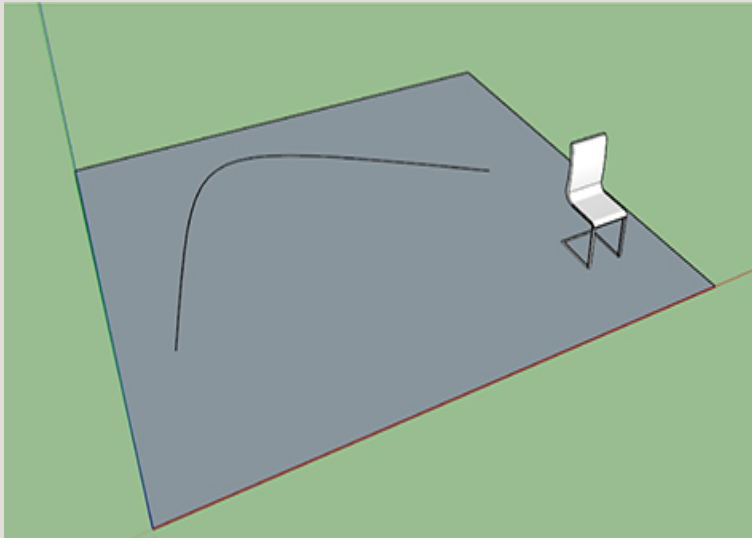

Figure 4-17 Make a rectangle, group it, and draw a Bezier curve.
1. Make a rectangle and group it. Then draw a Bezier curve on top of it (Figure 4-17).